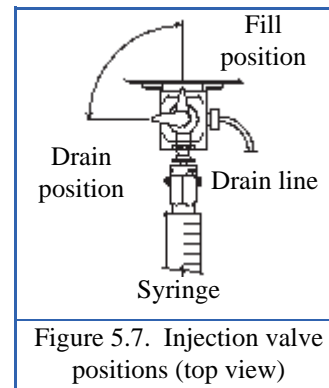

Figure 5.7. Injection valve positions (top view)
2. Attach the syringe to the four-way (or three-way) injection valve syringe port (Figure 5.7).
4. Turn the injection valve lever to the fill position (Figure 5.7).
8. Turn the injection valve lever to the fill position (Figure 5.7).